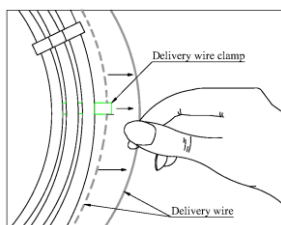

Figure 5. Remove the product
- Carefully decouple the product from the silicone clamp and remove the product from the packaging hoop (Figure 5).